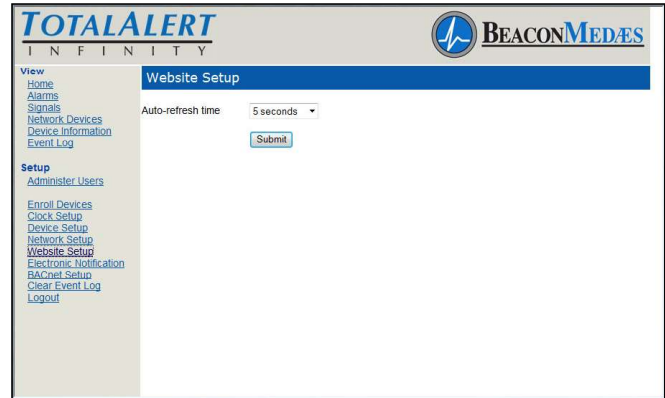

Figure 199: Website Setup Page
1. Click Website Setup to access Auto-refresh time menu (Figure 199).